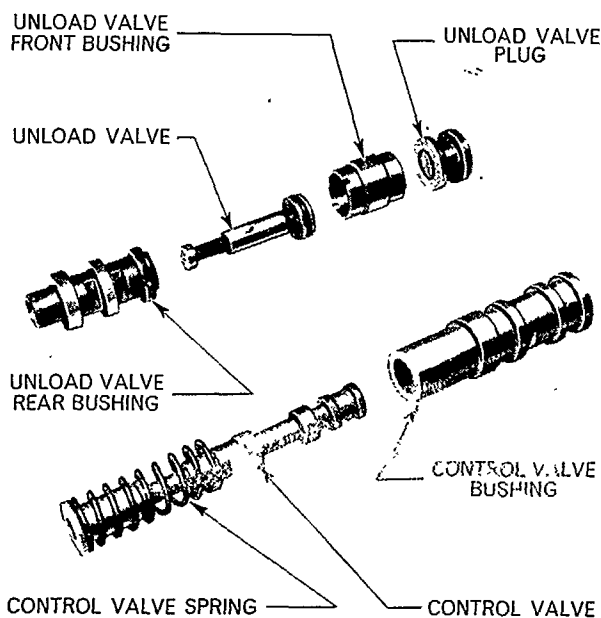
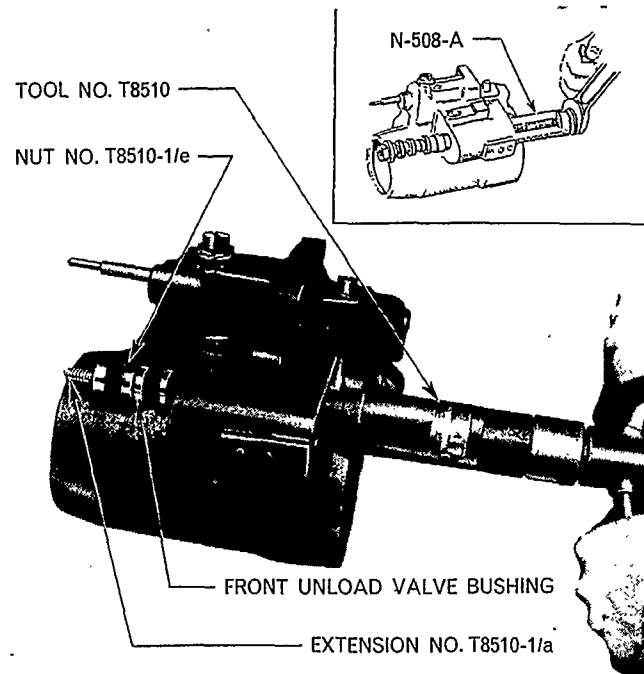

Figure 68
Figure 69
1. The lift cylinder is marked on the outside of the cylinder with a colour spot opposite the unload bushing bore. Select a front and rear unload valve bushing, Figure 68, with the same colour marking and install these bushings until flush with the rear face of the housing using Lift Cylinder Bushing Remover and Replacer No. T.8510, the short threaded Extension T.8510-1/a Figure 69. Lubricate the bushings prior to installing.
Alternatively use Lift Cylinder Bushing Remover and Replacer No. N-508-A, inset—Figure 69.